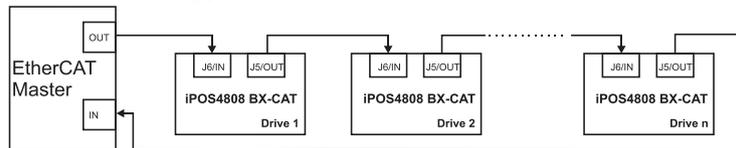

Figure 3.28. EtherCAT network ring topology
- Ring, when the J5 / OUT port of the last drive in the chain is connected back to the master controller, on the 2nd port of the master. This topology consists of the linear topology described above, plus an extra connection between the master, which has two RJ45 ports, to J5 / OUT of the last drive. See **Figure 3.28** for a visual representation of the ring topology.